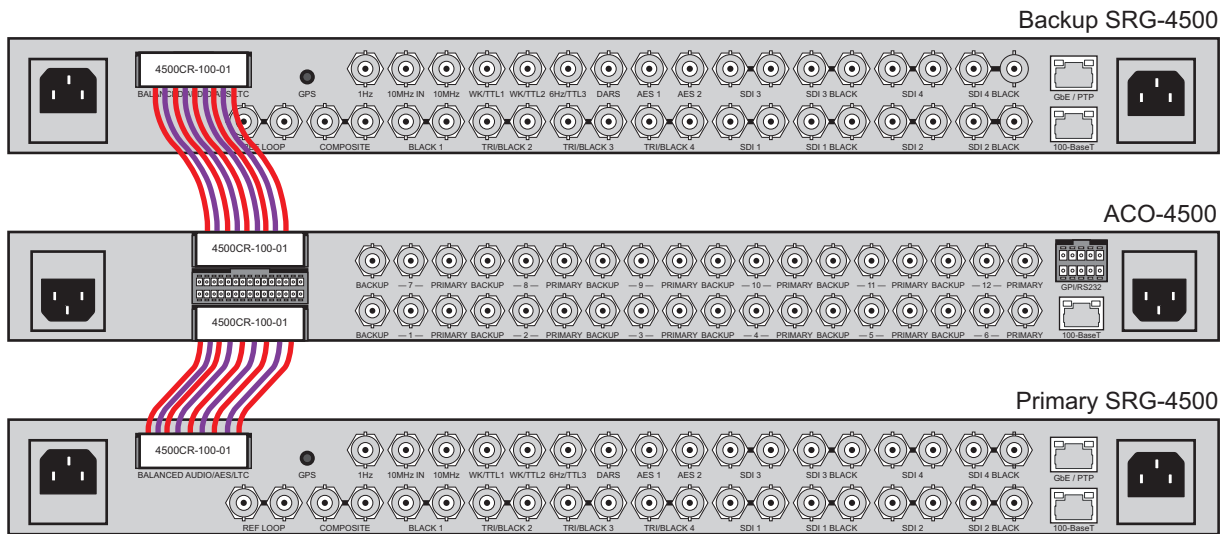

Figure 4.3 Connecting the Backup SRG-4500 to the ACO-4500 Rear Panel
2. Connect the other end of the same Interface Cable to the top 30-pin Connector on the ACO-4500 rear panel. Refer to Figure 4.3.